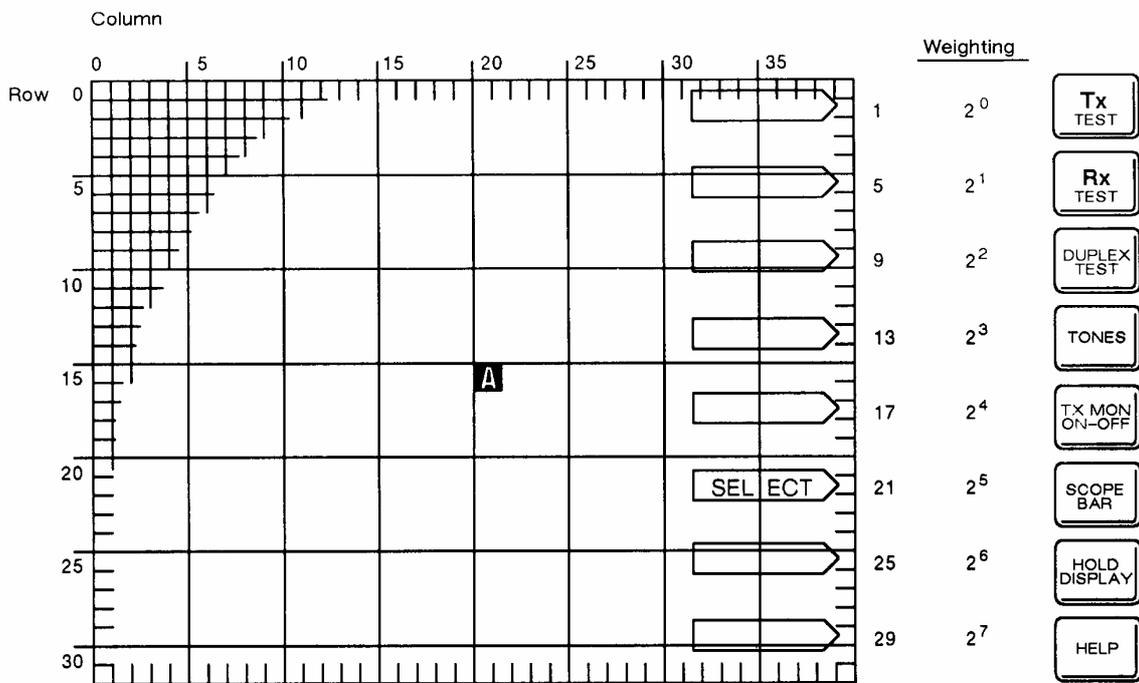

Fig. 3-3 Screen addressing example
To write a reverse video A at the centre of the screen at column 20, row 15, use "WR20,15,;"CHR\$(97) or "WR20,15,a". To write SELECT in the box alongside the SCOPE/BAR key, use BX32,6;WR32,21,SELECT<LF>. See Fig. 3-3.